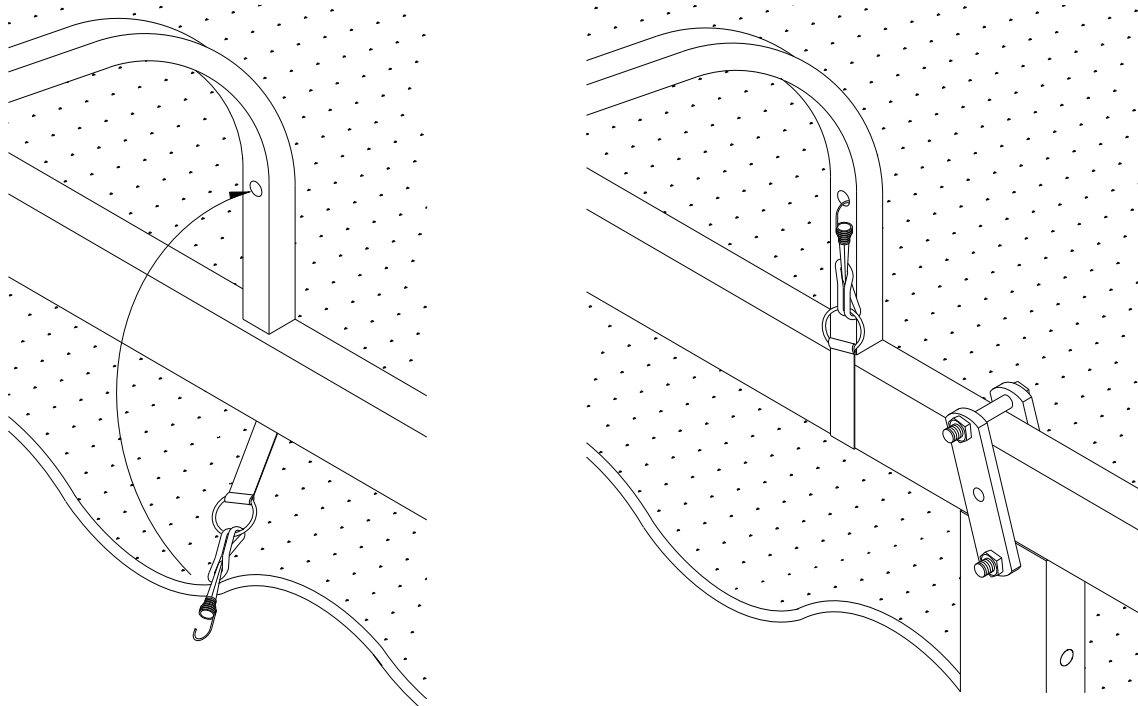

Figure 2-8.
16. Refer to **Figure 2-8**. Feed bungee cord through ring and thread hook end through loop to attach to ring. Wrap bungee cord under and around canopy frame. Attach hook end to hole in canopy rib as shown.